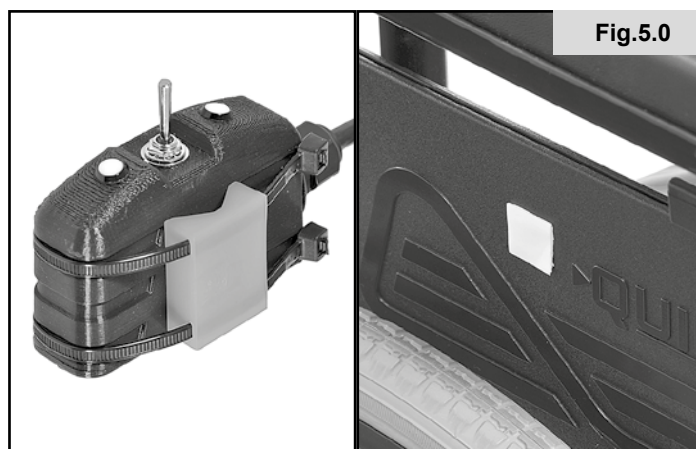

Fig.5.0
4. The switch box can be mounted to a flat surface using zip ties also, (Fig.5.0).